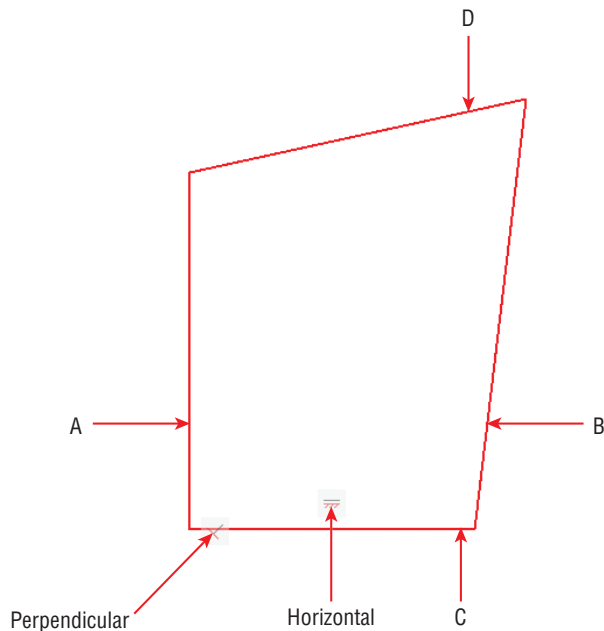
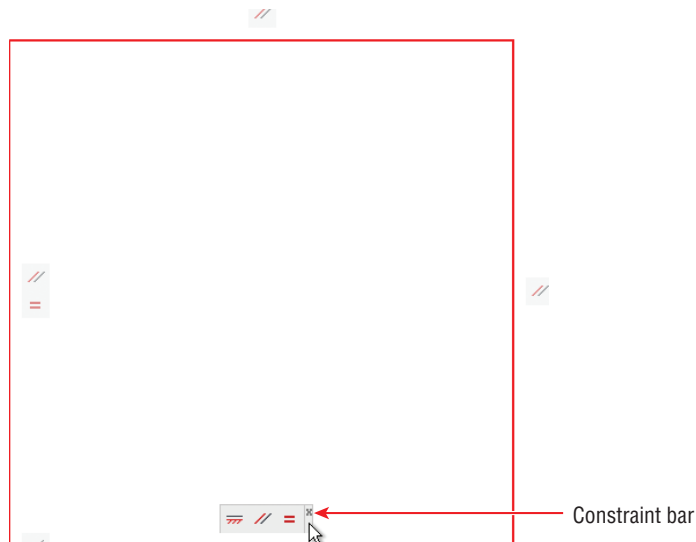

FIGURE 12.3 Applying constraints with the Auto Constrain tool
FIGURE 12.4 Applying Equal constraints to adjacent sides turns the rectangle into a square.
7. Select the Parametric tab on the ribbon, and select the Auto Constrain tool in the Geometric panel. Select the unconstrained rectangle on the left and press Enter. Two constraints are applied: perpendicular and horizontal (see Figure 12.3).
8. Select the Parallel constraint tool in the Geometric panel. Click lines A and B, as shown in Figure 12.3. Line B is automatically repositioned to conform to the parallel constraint applied to line A.
9. Press the spacebar to repeat the GCPARALLEL (for Geometric Constraint Parallel) command. Click lines C and D, as shown in Figure 12.3.
11. Select the Equal constraint tool in the Geometric panel. Click lines A and C, as shown in Figure 12.3. The rectangle becomes a square (see Figure 12.4).